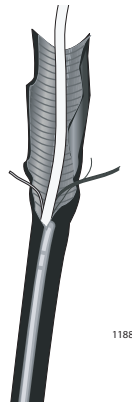

Figure 15. Opening Out the Shielding
7. Open out the shielding to expose the buffer tube, as shown in Figure 15.